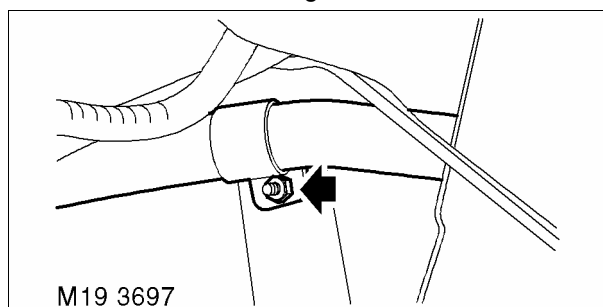

Fig. 2
- 6 Remove fuel tank vent hose retaining bracket securing nut and bolt. Fig. 2.